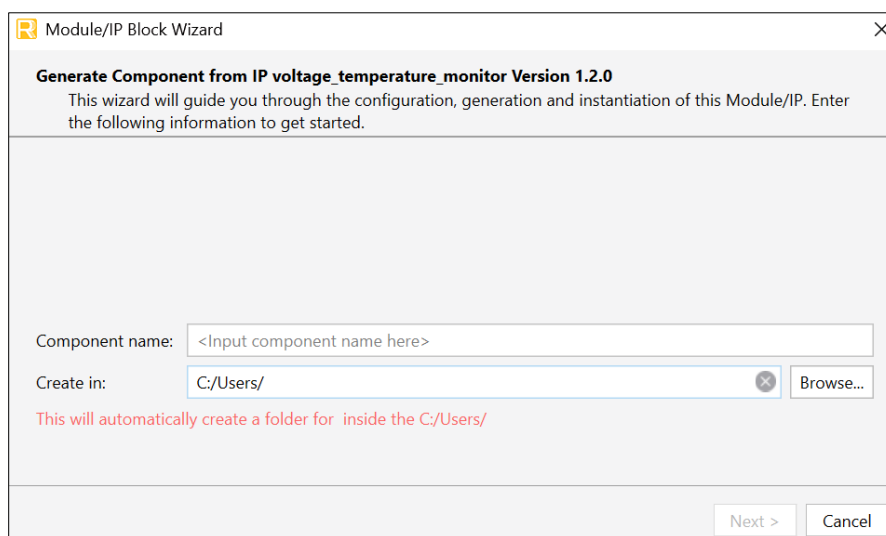

Figure 5.1. Module/IP Block Wizard
2. In the **IP Catalog** tab, double-click **Voltage Temperature Monitor** under the **Architecture_Modules** category. The **Module/IP Block Wizard** opens, as shown in Figure 5.1. Enter values in the **Component name** and the **Create in** fields and click **Next**.
- Click **Finish**. All the generated files are placed under the directory paths in the **Create in** and the **Component name** fields shown in Figure 5.1.